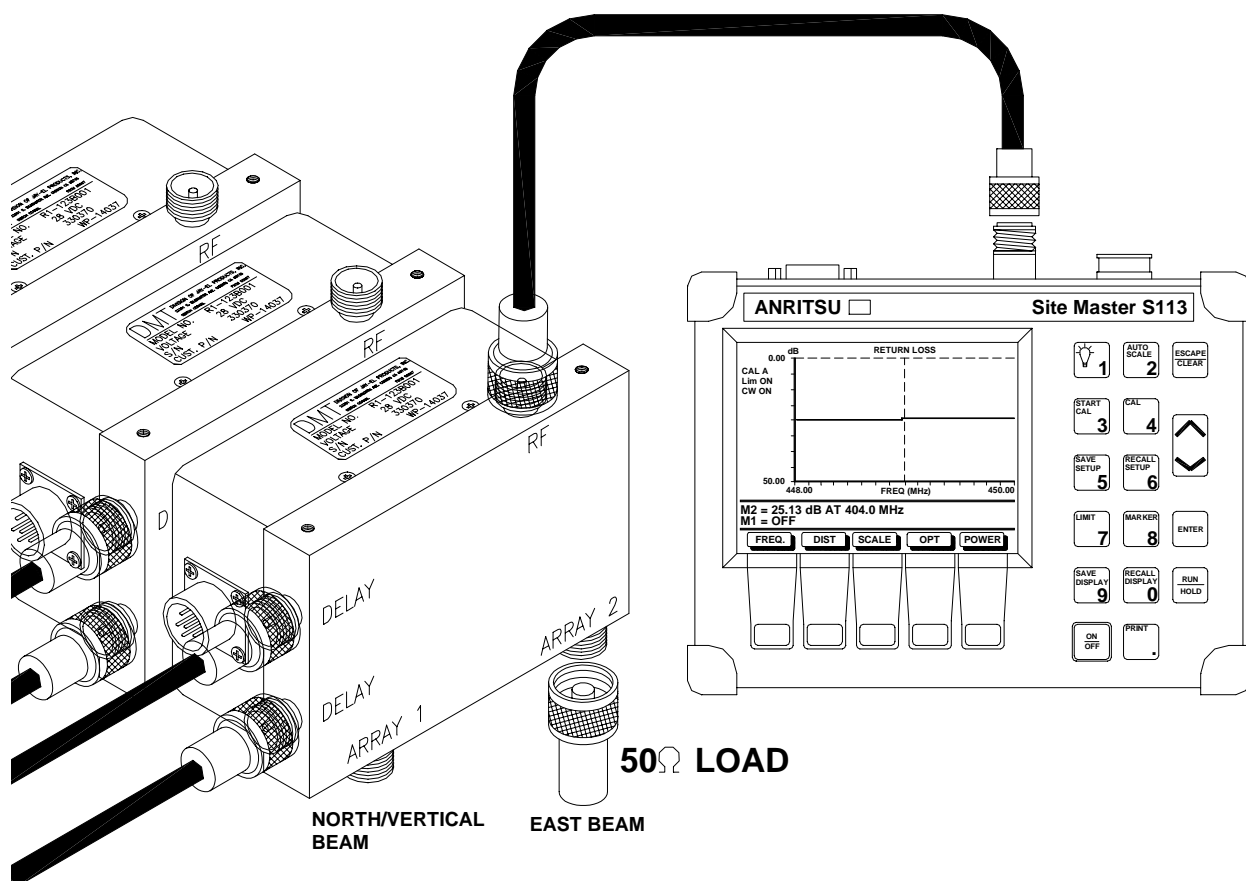

Figure 5-26 BSU Switch Return Loss Measurement
9. Place a 50 ohm load (provided in Anritsu kit) on the desired output connector at bottom of switch #1. East (labeled *ARRAY 2* on switch) is closest output to you. North\Vertical (labeled *ARRAY 1* on switch) is furthest away (Figure 5-26).